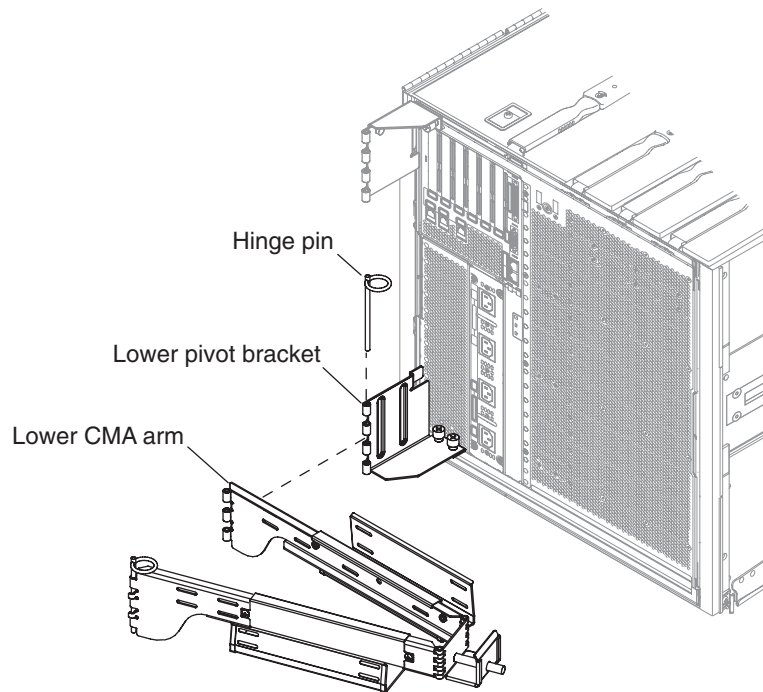

FIGURE 1-20 Attachment of Lower CMA Arm and Pivot Bracket
6. After attaching the bracket to the chassis, secure the lower CMA arm to the bracket using the hinge pin removed previously, FIGURE 1-20.